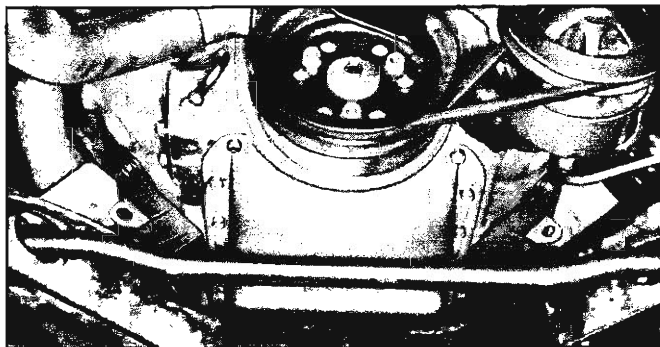

Fig. 6W—Engine Blocked for Pan Removal
12. Using a suitable jack (and a block of wood to prevent damaging oil pan), raise engine enough to insert 2" x 4" wood blocks under engine mounts (fig. 6W), then lower engine onto blocks.